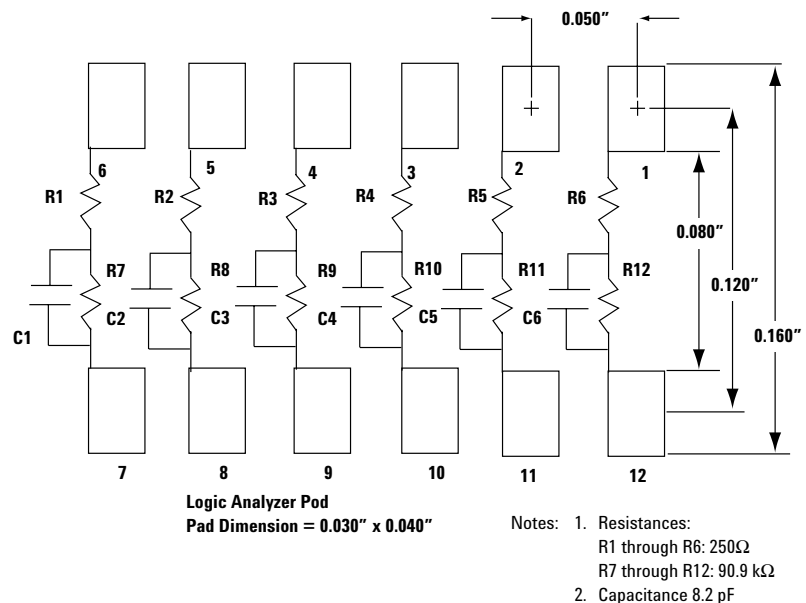

Figure 5.26. Recommended PC board pattern for 5062-7396 surface mount isolation network
- Use the surface mount isolation network, Agilent part number 5062-7396. Refer to Figure 5.26 for schematic and pinout.
As shown in Figure 5.26, the 5062-7396 SMT isolation network supports six logic analysis channels. The size of the part allows you to repeat the pattern in Figure 5.26 to accommodate multiple parts stacked end-to-end for the number of channels needed in your application. Three of these SMTs are required for each probe